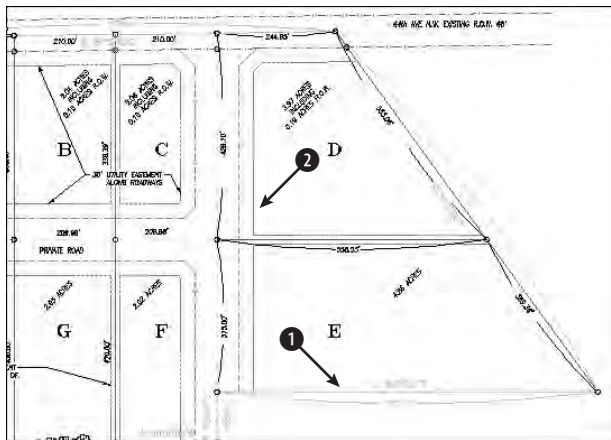

Figure 12-13: The site plan zoomed in to parcels D and E
2. If you didn't do the previous exercise, use ZOOM Window to zoom in to the parcels labeled D and E, as shown in Figure 12-13.
4. Choose Draw ⇨ Point ⇨ Divide. At the Select object to divide: prompt, choose **1** in Figure 12-13. At the Enter the number of segments or [Block]: prompt, type **3** ↵. AutoCAD places two points along the line, dividing it into three segments. (If you want, draw lines from the points perpendicular to the opposite side of the parcel to divide it into three parcels.)
5. Choose Draw ⇨ Point ⇨ Measure. At the Select object to measure: prompt, choose **2** in Figure 12-13. At the Specify length of segment or [Block]: prompt, type **120** ↵ (10 feet). AutoCAD places two points along the line.